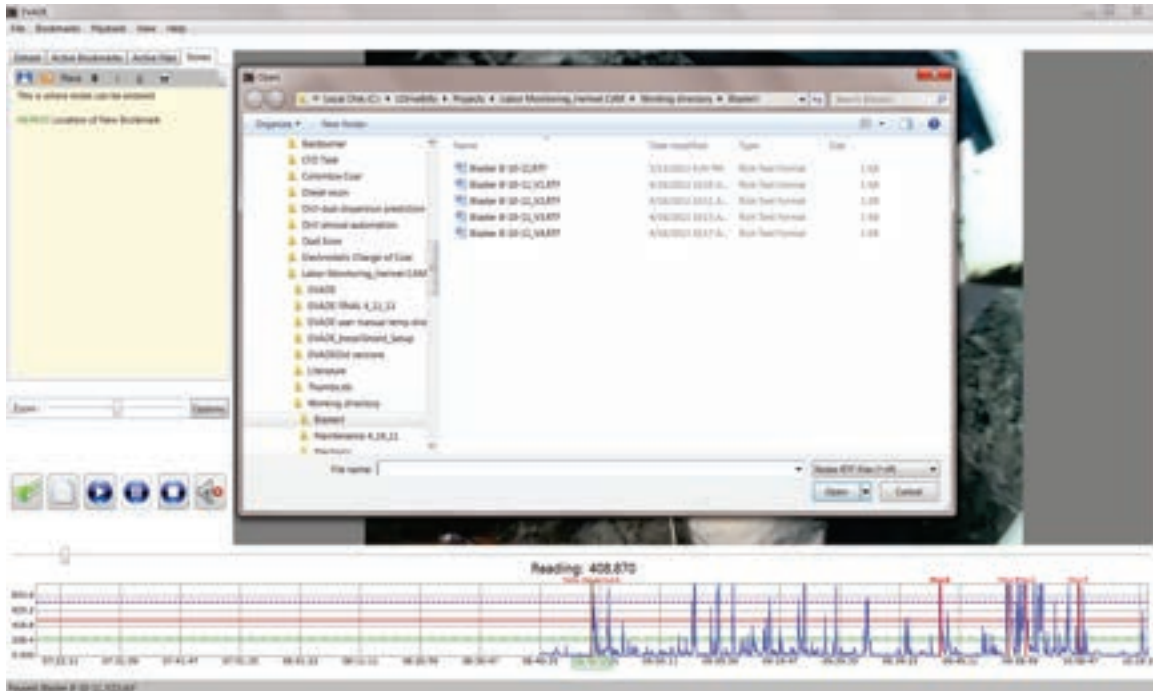

Figure 58. The Open dialog box that opens after clicking the Open RTF button under the Notes tab.
- **Place** or **Insert Frame Time**. Clicking this icon button enters the time corresponding to the location of the vertical green bar on the dust data graph into the Notes subwindow (see the time displayed in green in Figure 58). Subsequent clicks of the **Place** icon will enter additional times which will be different from the original entered time if the video is playing.